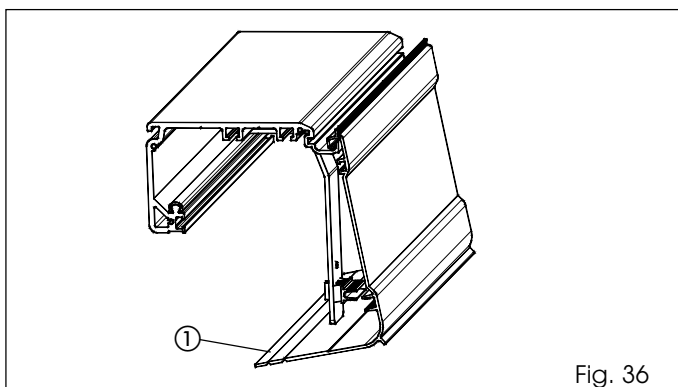

Fig. 36
- The housing is secured on the brackets with the appropriate hooks (fig. 36).
- Break off the excess lower housing profile with a pair of pliers (fig. 36 ref. ①).